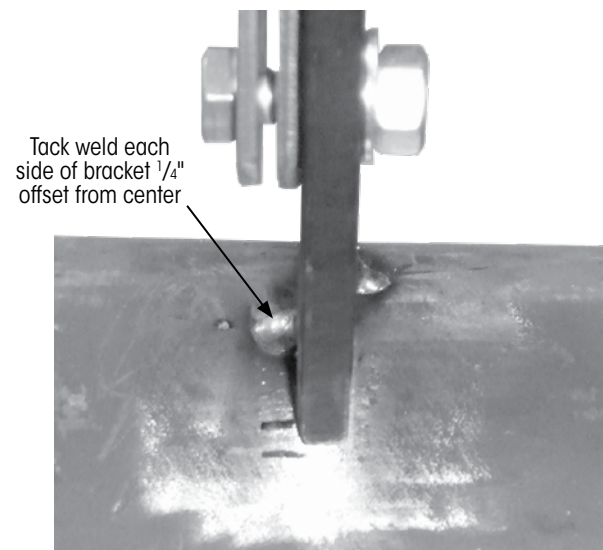

Figure 4: S-cam bracket tack weld placement
6. **Tack weld** each side of the S-cam bracket assembly (Figure 4) in place on the axle tube. The tack welds should be offset from each other about $\frac{1}{4}$ inch (6 mm) from the center of the S-cam bracket.